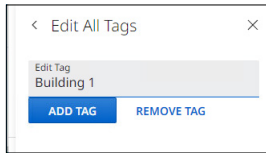

Figure 28. Edit All Tags — ADD TAG
4. Enter the tag name in the Edit All Tags text box (see figure 28).
2. Enter the tag name in the Edit Tag text box (see figure 28).